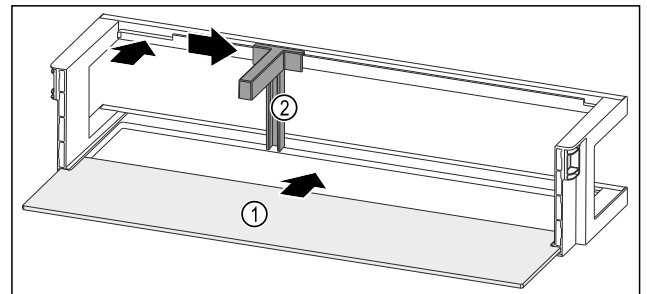

Fig. 101 Door rack with shelf
- Push the shelf Fig. 101 (1) into the side recesses.
- Insert the bottle holder Fig. 101 (2) in the recess.
- Push the bottle holder Fig. 101 (2) to the desired position to the side.